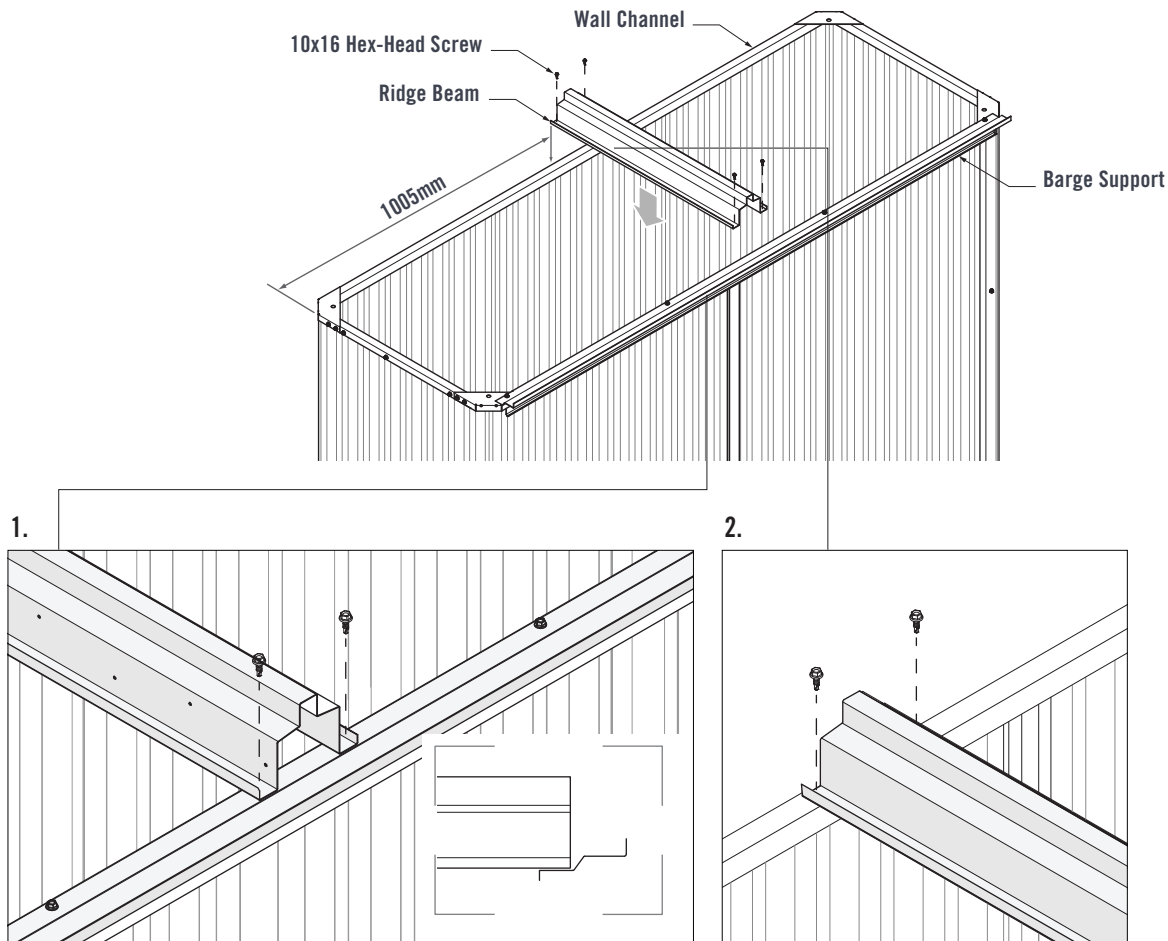

FIGURE 7.1
Fit the Ridge Beam onto the top Wall Channel and Barge Support. Ensure 1005mm spacing between the edge of the shed and edge of the Ridge Beam (Figure 7.1).
1. Align the end of the Ridge Beam with the step of the Barge Support. Fasten two 10x16 Hex-Head Screws through the pilot holes in the Ridge Beam and into the Barge Support (Figure 7.1).
2. Fasten two 10x16 Hex-Head Screws through the pilot holes in the Ridge Beam and into the rear Wall Channel (Figure 7.1).